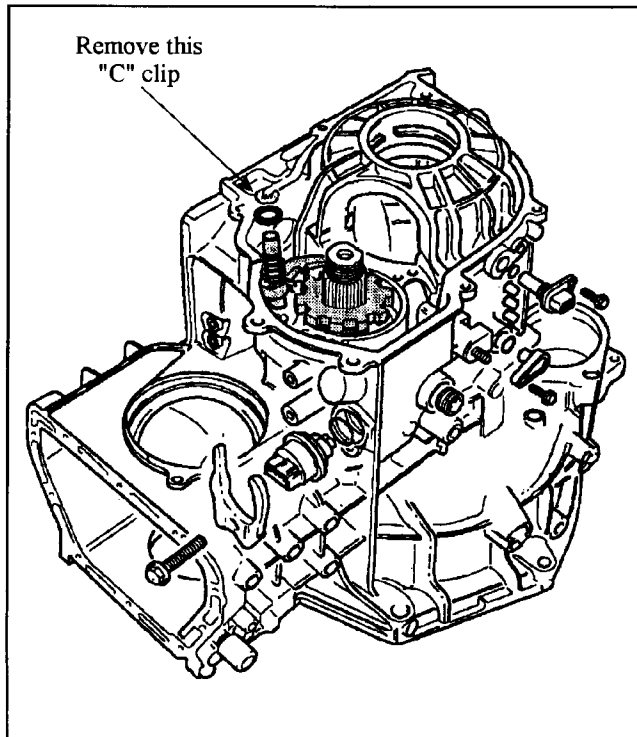

Figure 88
1. Carefully remove the "C" clip from the parking pawl shaft taking care not to lose the clip, then remove the washer (See Figure 88).